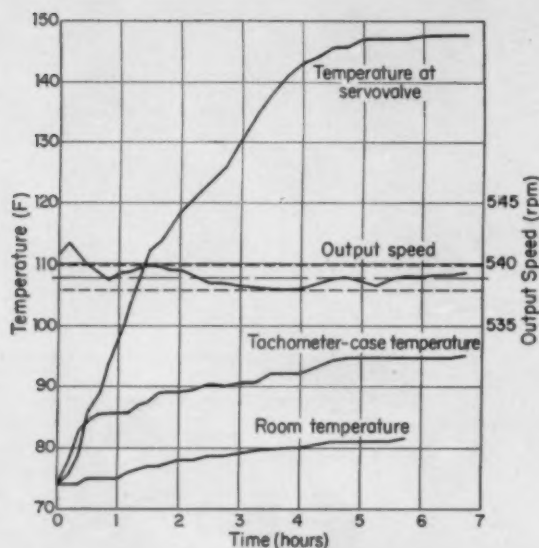

Fig. 5—Measured performance of the drive selected in the *Practical Example*.
**Accuracy:** Output speed versus time is shown in Fig. 5. During the almost seven hours of operation, the speed accuracy is within  $\pm 2$  rpm. Allowing a half-hour warm up period the speed accuracy is  $\pm 1$  rpm. Performance at other speeds and in the opposite direction compares favorably with the performance illustrated.
**Temperature Effects:** Changes in temperature at the servovalve, Fig. 5, have very little effect upon output speed, since closed-loop control reduces the effect of variations in forward-path elements by a factor equal to the loop gain (15 to 25).